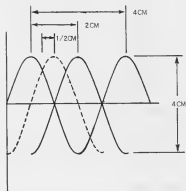
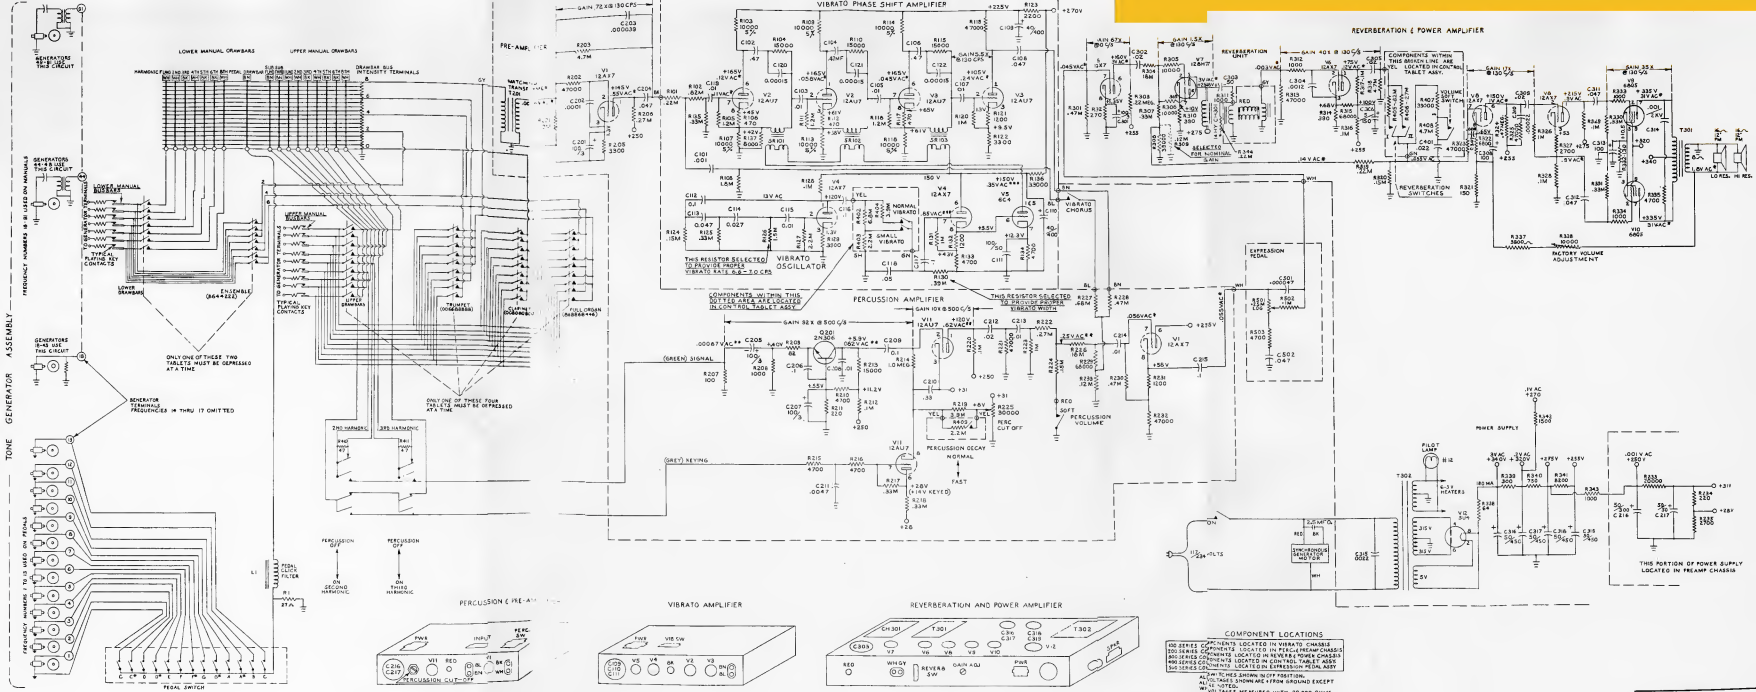

Figure 4-1. Vibrato Adjustment Waveform
FIGURE 5-1.
- i. Depress the VIBRATO NORMAL tab. Adjust the VIBRATO WIDTH control for a total phase shift swing of 2 cm. (refer to Figure 4-1). If VIBRATO WIDTH control does not give satisfactory result, select R133, Figure 5-1 through 5-4 between 220Ω and 1K.
- j. Release VIBRATO NORMAL tab. Single wave must be centered $\pm \frac{1}{2}$ cm. as shown in Figure 4-1.
- b. If the generator turns and the tubes light, but no sound can be obtained with all controls in playing position, the most likely source of trouble is the amplifier. In most respects this is a conventional amplifier circuit, and the schematic diagrams, Figures 5-1 through 5-4, will enable the service man to locate the trouble.